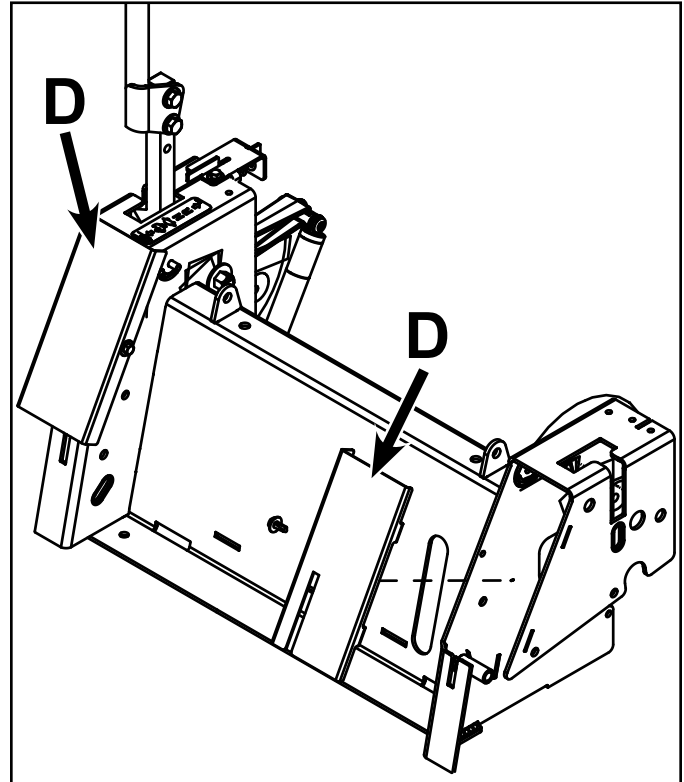

Fig. 022
7. Remove the (2) control covers (D) (Fig. 022).